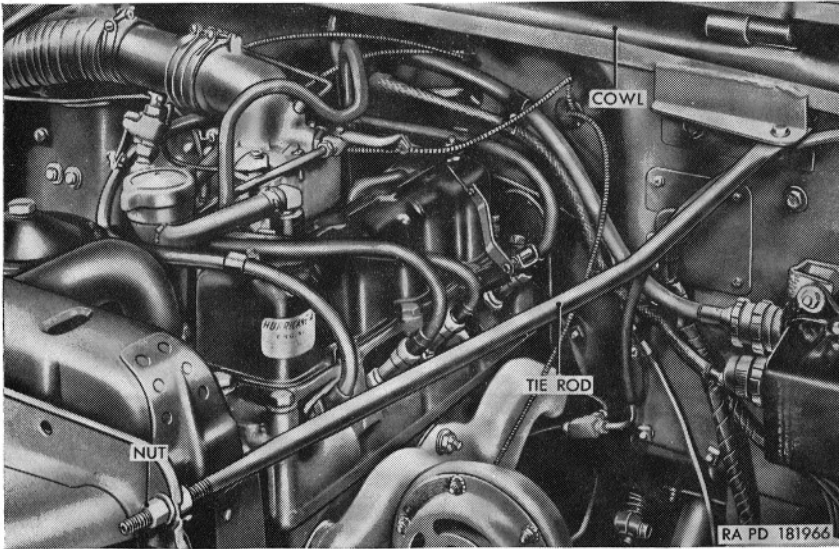
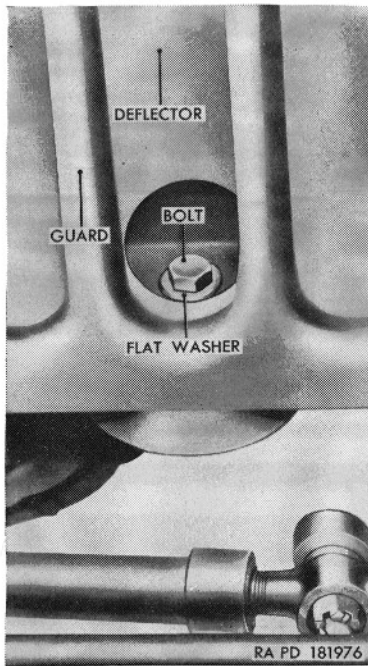

Figure 16.2. (Added) Dash-to-air deflector tie rod M170—installed—left side.
Figure 16.3. (Added) Radiator guard and deflector M170.
b. Loosen nuts and slide tie rod (fig. 16.2) out of slot in radiator guard and off bolt and flat washer (fig. 16.3) at front bottom of guard.